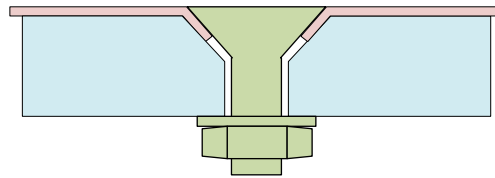

FIGURE 2. CAKE PAN HOLE PREPARATION
3. Prepare the holes. The cake pan material is thin, so it is not feasible to countersink the holes. Instead, we will draw the material into a cone shape by tightening a 10-32 flat Philips screw in the hole backed by the aluminum form supplied (see Figure 2).